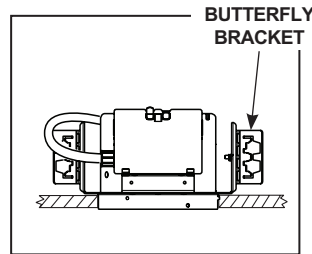

Figure 2
Step 1. Install housing into ceiling cavity by inserting 1/2" EMT, 3/4" or 1-1/2" C-Channel, linear flat bars or Real Nail 3 bar hangers into butterfly style mounting brackets (Fig. 2).